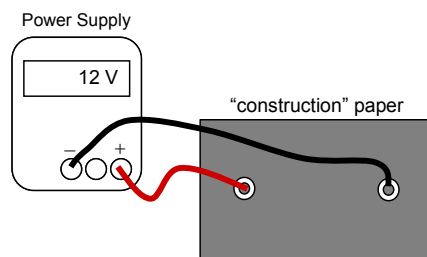

Figure 1: Establishing an electric field that can be mapped
In this experiment you will create an electric field that is easy to map. To create the electric field you will clamp two small metal washers to opposite sides of a sheet of black “construction” paper. A potential difference of 12 V will be maintained between the washers by connecting them to the power supply as shown in *Figure 1*.
When you make the connections in *Figure 1* and turn on the power supply you won't see or sense anything happening. But in fact, an intricate but invisible pattern will have been established in the paper. Here we will augment our inadequate senses in order to perceive, to map, the pattern.
- Connect the power supply as shown in *Figure 1* above. Turn it on and set the voltage to read about 12 V.